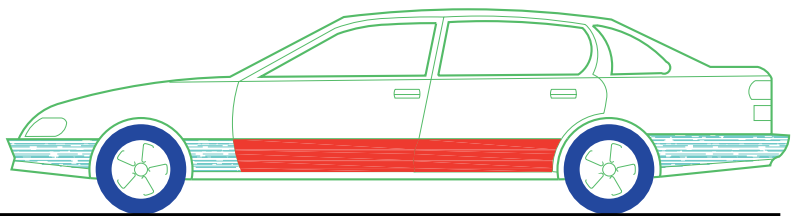

Fig. 8.23 Exercise 4
- Fig. 8.23 is a front view of a car with parts hatched. Construct a similar drawing of any make of car, using hatching to emphasise the shape.